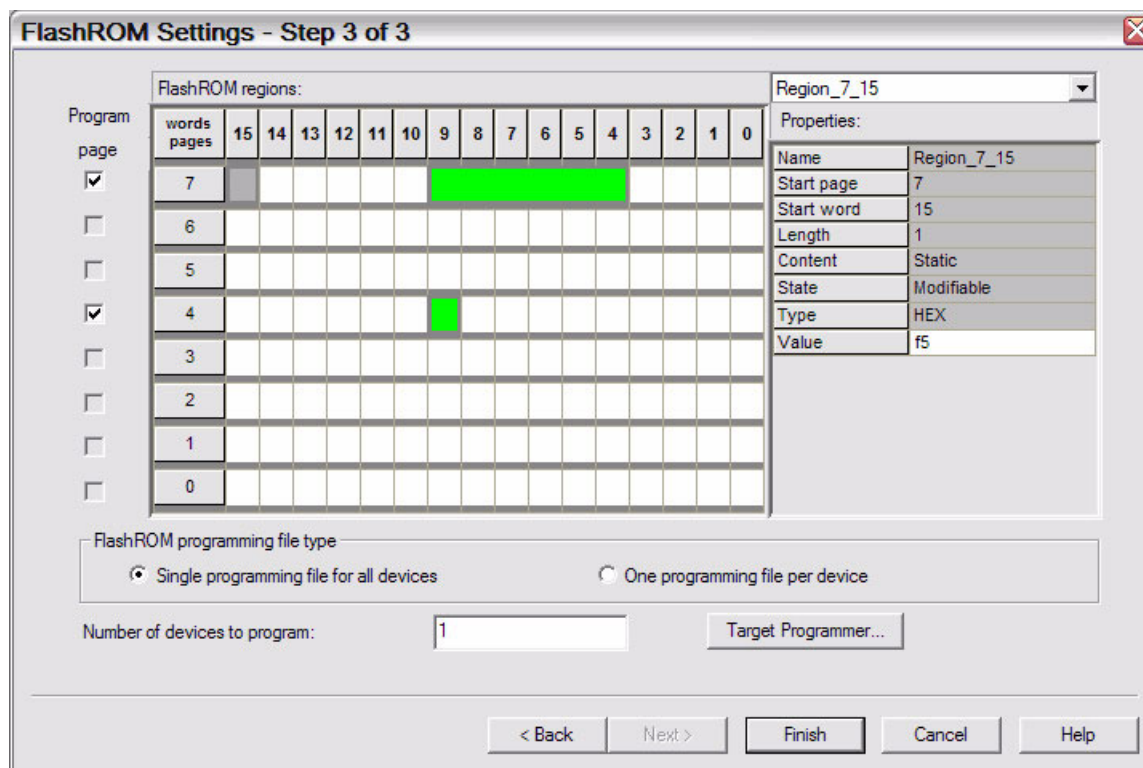

Figure 9 • FROM Configuration Settings
- Choose the desired settings for the FlashROM configurations to be programmed (Figure 9). Click **Finish** to generate the design STAPL programming file.